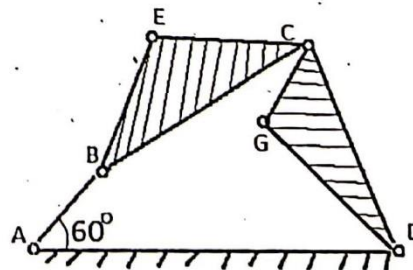

Fig.1
2. A four bar chain mechanism has different links as shown in Fig.1 has AB=15 mm, BC=25 mm, CD=20 mm, AD=30 mm, BE=CE=16 mm, CG=10 mm and DG=14 mm. Draw the velocity and acceleration diagram when the crank makes 60° and rotates at 300 rpm in a clockwise direction. Determine the absolute velocity and acceleration of E and C. Also calculate the acceleration of G and E with respect to middle point of CD for the given instant. 8